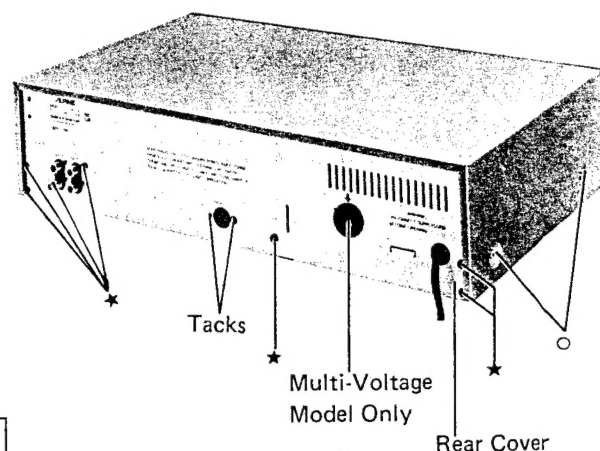

Figure 4
- (1) After removal of the top cover, remove seven screws marked "★" as shown in Figure 4.
- (2) Remove two tacks as shown in Figure 4.
- (3) Remove the rear cover.